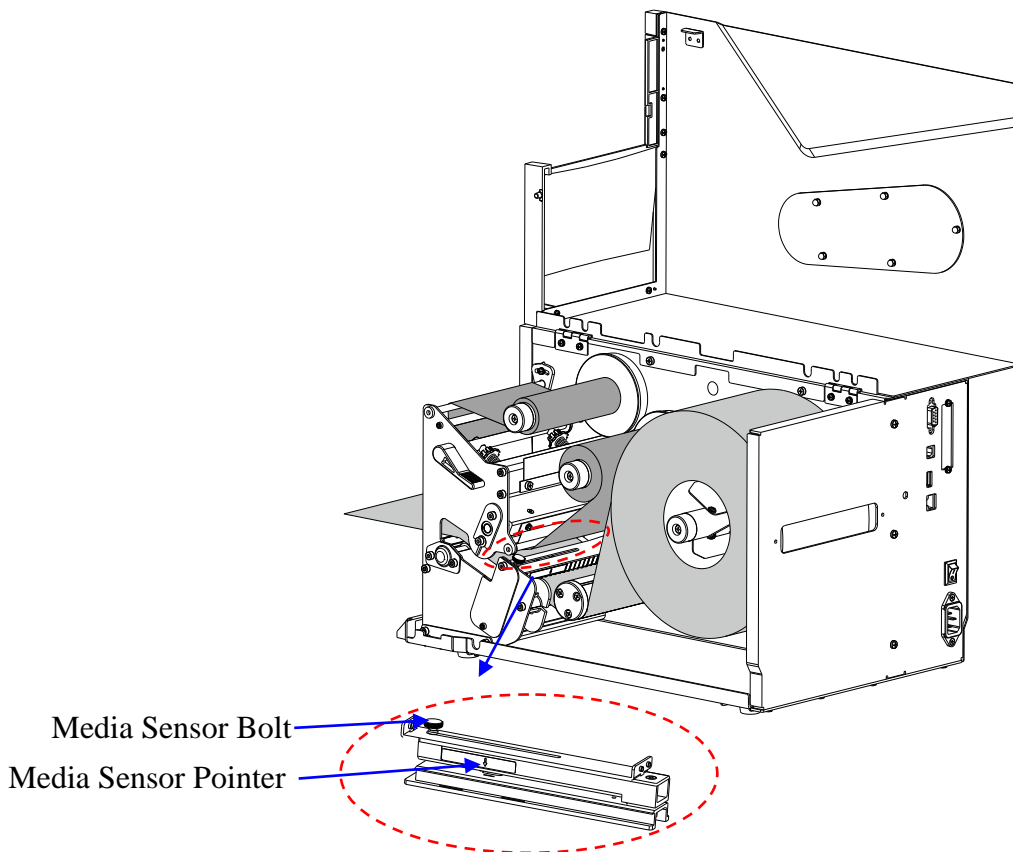

Figure 2-13 Adjust the Media Sensor Position
4. Adjust the Media Sensor Position. Loosen the Media Sensor Bolt and move the Media Sensor to the appropriate position, see Figure 2-13. Adjust the Media Sensor to ensure that its position is directly over the gap, hole, notch or black mark.